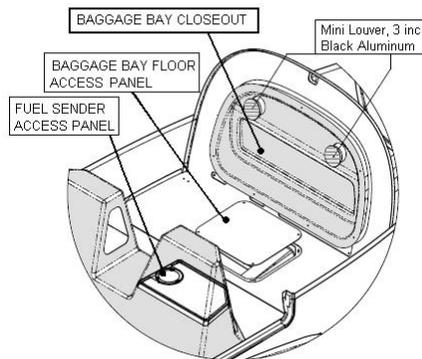

Figure 53-22 Baggage Bay Closeout
This area is designated for storage of items limited by weight. This area houses two (2) access panels as shown in Figure 53-22:
Access panels are provided as internal structural elements to facilitate maintenance. The Baggage Bay Closeout is a removable component to allow access to the interior of the AFT fuselage and components. To access the interiors of the aft fuselage, temporarily remove the baggage bay closeout. To remove the baggage bay closeout remove and retain the mounting hardware. See Figure 53-22